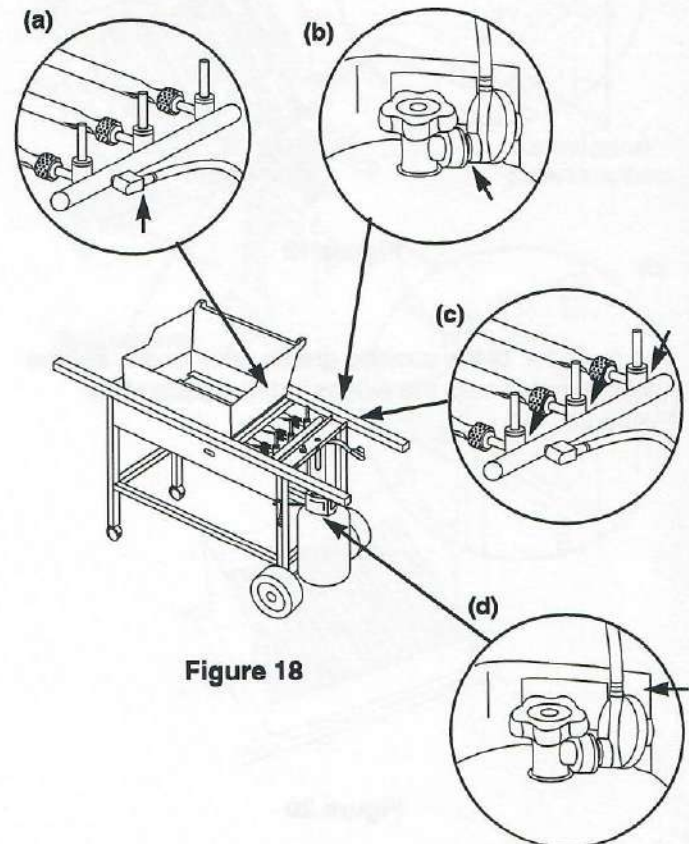

Figure 18
a) Hose to manifold connection. Figure 18 (a).
b) Regulator to tank connection. Figure 18 (b).
c) Valves to manifold connections. Figure 18 (c).
d) Hose to regulator connection. Figure 18 (d).